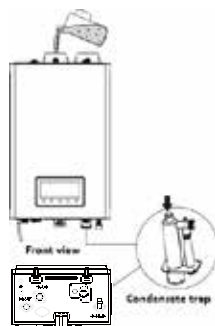

Figure 31
4. Fill the condensate trap inside the water heater by pouring water through the exhaust vent on top of the unit until water flows through the condensate drain. Ensure the water flows through the condensate drain line smoothly. (**Figure 31**)